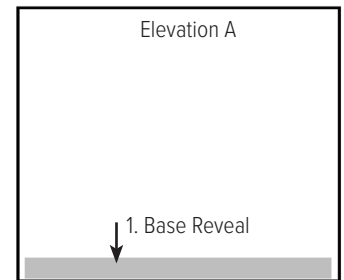

Figure 2.1.2
2.1.2 Center the reveal against the wall along the floor and apply light pressure to distribute the adhesive evenly as shown in Figure 2.1.2.